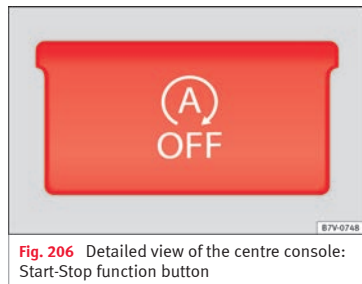

Fig. 206 Detailed view of the centre console: Start-Stop function button
- Press the  button on the centre console **»» Fig. 206**.